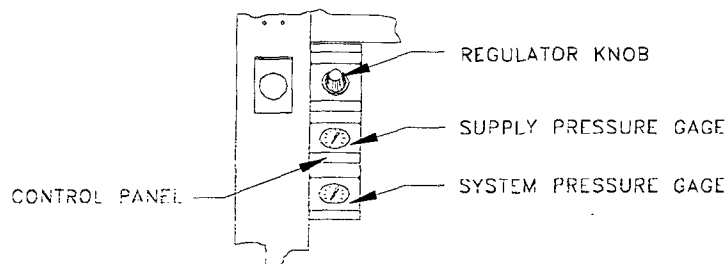

Fig. 4 9100/9200 Series Control Panel Illustration
5. Turn on the air supply and adjust the Filter Regulator on the Control Panel clockwise for approximately 80 psi. It is advised not to exceed 80 psi supply pressure (as shown on Fig. 4).